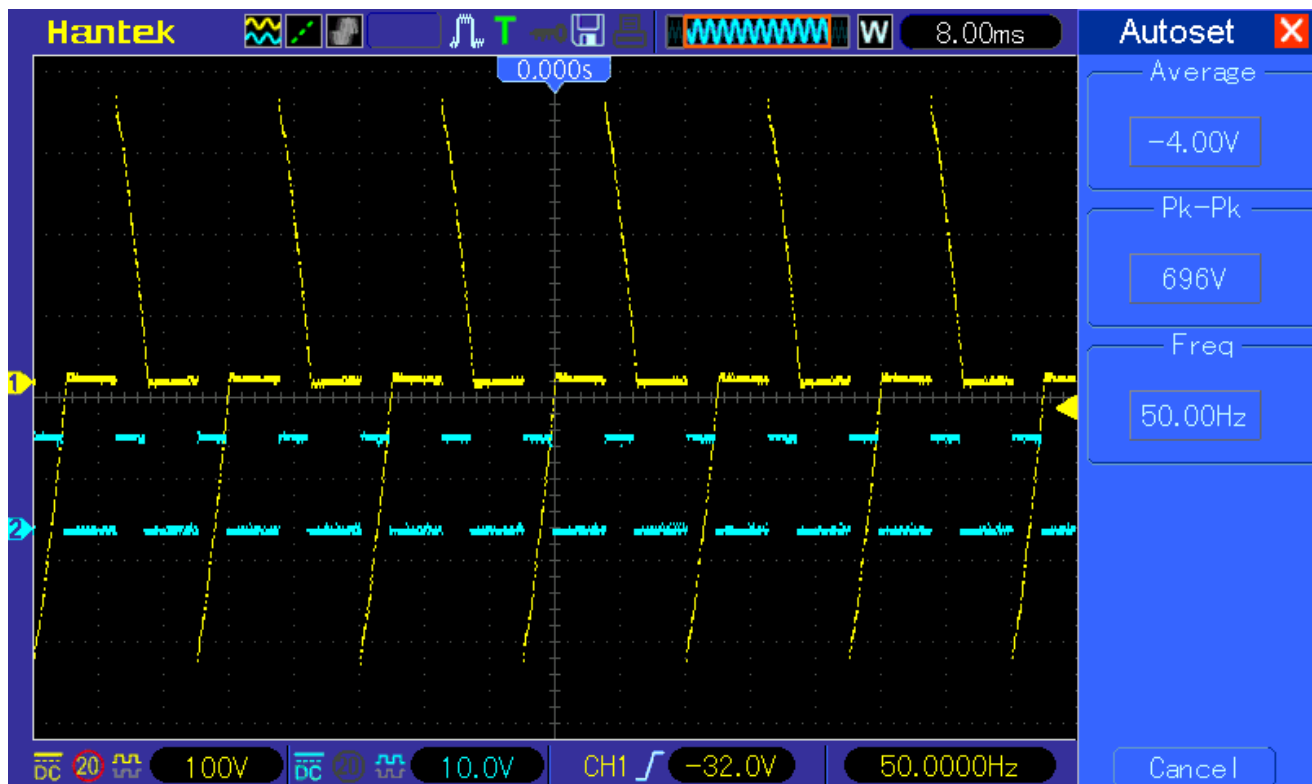

Figure 13: PWM at 40%
12. Run the program. Refer to Figure 13.